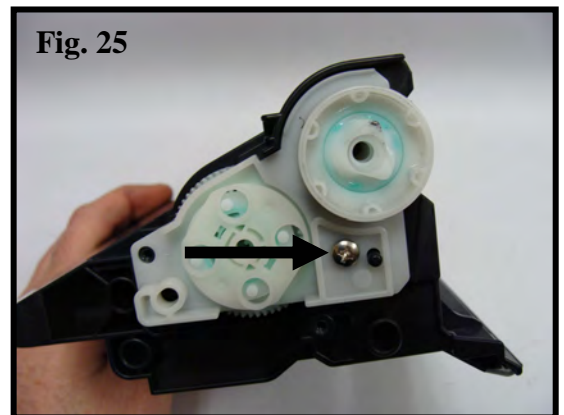

Fig. 25
25. Remove one screw from the drum stabilizer (Fig. 25).